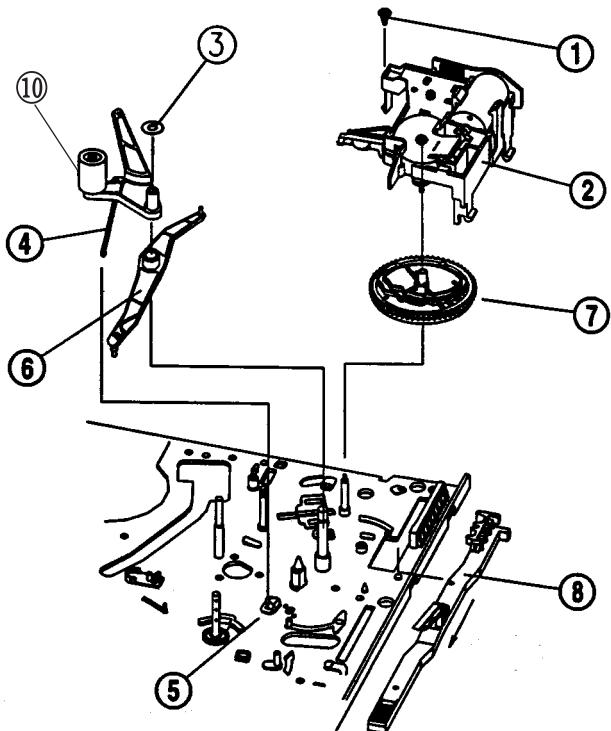

Fig. 22- Replacement of L/C Bracket Total Assembly/Pinch Lever Total Assembly/cam Gear/Relay Lever/F/L Rack
#### L/C Bracket Assembly removal (Fig. 22)
1. Remove one (1) screw ① from the L/C bracket assembly ② and remove the L/C bracket assembly ② from the deck mechanism (Fig. 22)
#### Replacement of Pinch Lever Total Assembly Removal (Fig. 22)
#### Cam Gear, and F/L Rack Removal (fig. 22)